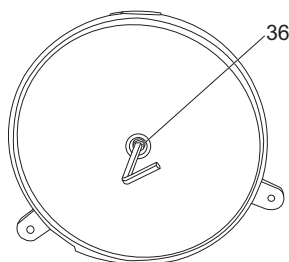
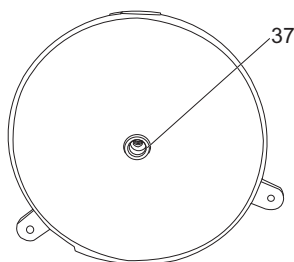
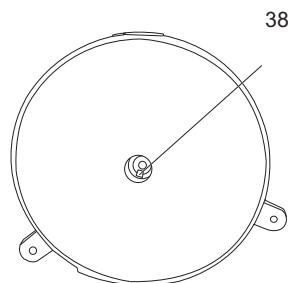

Fig. 38
Fig. 39
Fig. 40
- > Remove the allen bolt (36) and washer with 4mm hex key (Fig. 38), followed by the bolt cup (37) (Fig. 39), you can then see the wooddruff key (38) (Fig. 40). When refitting the disc plate you must align the groove in the disc with the wooddruff key (38).